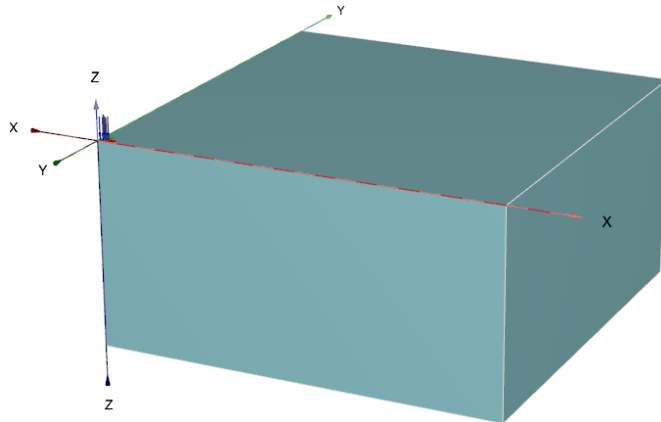

Figure 8.2 Geometry of the model
- Keep the default units and set the model dimensions to $x_{min} = 0$, $x_{max} = 20$, $y_{min} = 0$ and $y_{max} = 20$. The geometry model is shown in Figure 8.2.